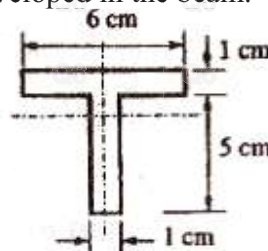

Figure: 2
- 3.a) A beam having the T-section as shown in figure 2 below is subjected to a bending moment of 24 kN-m about the horizontal axis. Find the maximum tensile and compressive bending stresses developed in the beam.